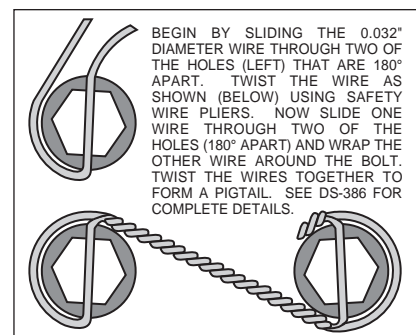

Figure 5. Safety Wire Diagram
- Make sure this is the correct kit to fit the axle housing flange, not necessarily the rear end make. Many times after market manufacturers put a different make of axle housing flange on the stock rear end housing (see Figure 5). Example; Big Ford rear ends with Olds-Pontiac flanges, therefore, an Olds-Pontiac rear disc brake kit would be the correct kit to order. Also, shock clearance may be a problem. They may have to be modified and/or relocated to clear the Wilwood kit after final assembly.
- With the larger I.D. side of the rotor (3) facing away from the hat (2), bolt rotor (3) to hat (2) through the backside of the rotor using washers (4) and bolts (5). Using an alternating sequence, apply red *Loctite*® 271 to the threads and torque bolts to 155 **in-lb**. For an added measure of security, the bolts may be safety wired using standard 0.032 inch diameter stainless steel safety wire as shown in Figure 5. Please refer to Wilwood's data sheet DS-386 (available at www.wilwood.com/Pdf/DataSheets/ds386.pdf) for complete safety wire installation instructions.